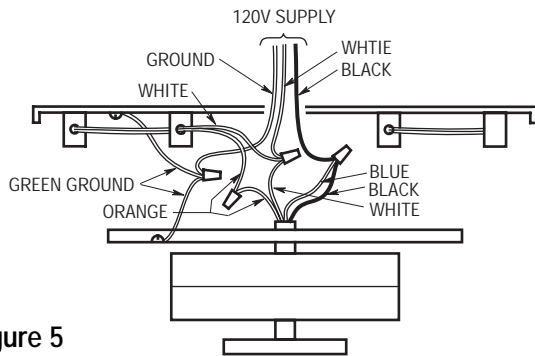

Figure 5
1. Connect the green grounding wire from the motor bracket and the green wire from the mounting plate/light fitter to the grounding conductor of supply (this may be a bare wire or wire with green colored insulation). Securely connect wires with wire connector supplied. (Figure 5.)
2. Securely connect the motor orange wire to the mounting plate/light fitter orange wire using wire connector supplied. (Figure 5).
3. Securely connect the fan motor white wire and the mounting plate/light fitter white wire to the supply white (neutral) wire using wire connector supplied. (Figure 5).
4. Connect the fan motor black wire and blue wire to the supply black (hot) wire using wire connector supplied. (Figure 5). Your fan is now wired to be turned on and off from the fan switch. After connections have been made, turn leads upward and carefully push leads up into the outlet box.